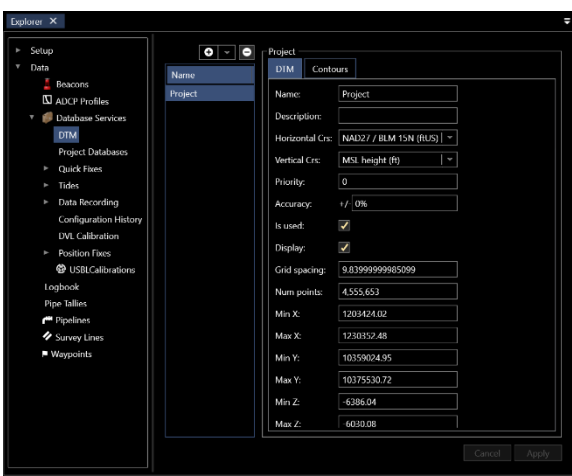

FIGURE 14-13 DTM LOADED
1. From the Explorer window, expand the Data > Database Services branch in the hierarchical tree and select DTM (see Figure 14-13)